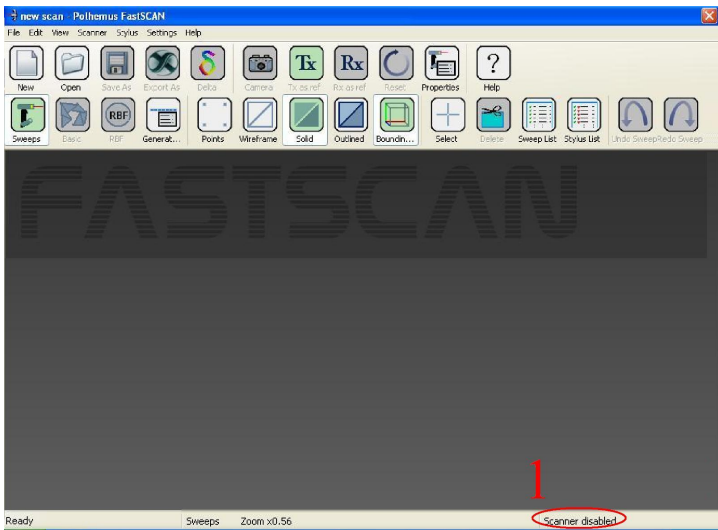

Figure 3: The *FastSCAN* startup screen.
3. Start *FastSCAN*™ by double clicking on its desktop icon. The *FastSCAN*™ startup screen (Figure 3) will appear.
4. The status indicator at the bottom right of the screen (labeled **1** in Figure 3) should change from **Scanner disabled** to **Scanner initializing...** After approximately 10 seconds this should change to **Scanner on-line**, indicating that the system has initialized.